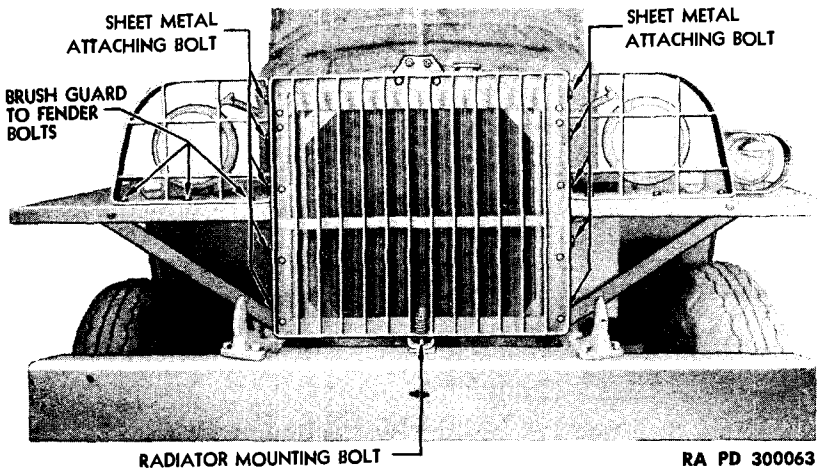

Figure 52—Radiator Mounting
(1) **REMOVE BRUSH GUARD TO SIDE PANEL BOLTS.** Remove 12 bolts, nuts, and lock washers (six on each side) which attach outer vertical bar of brush guard to side panel (fig. 52).
brush guard at front cross member (fig. 52). Do not lose insulating spacer between brush guard and cross member.
(6) REMOVE RADIATOR AND BRUSH GUARD ASSEMBLY FROM VEHICLE (fig. 52).
(7) REMOVE BOLTS. Remove six brush guard to fender bolts, nuts, and lock washers (three on each side) (fig. 52).
(8) REMOVE BRUSH GUARD FROM RADIATOR. Remove eight bolts, nuts, and lock washers which attach brush guard side supports to radiator core flanges. Remove radiator assembly (fig. 52).